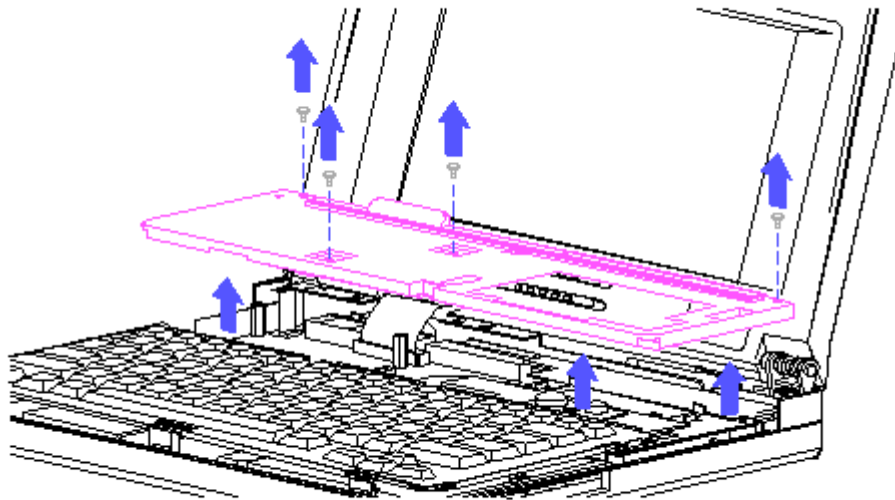

Figure 2-8. Removing the Sheet Metal Cover
2. Remove the sheet metal cover (Figure 2-8).